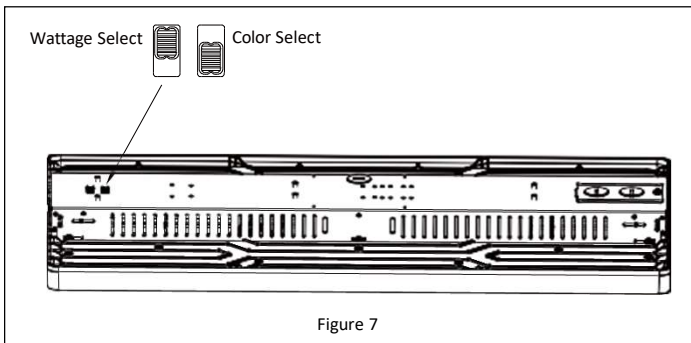

Figure 7
1. Set the wattage and color temperature to best suit the environment the fixture is being installed by adjusting the switches shown in *Figure 7.*